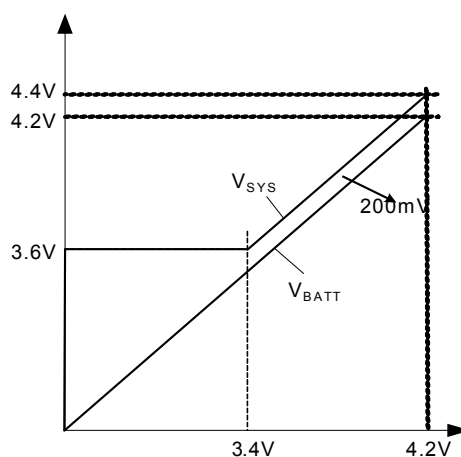

Figure 2 — MP 2617B SYS Regulation Output
2) If $\text{BATT} < 3.4\text{V}$, V_{SYS} is fixed at 3.6V to power the system immediately even when a drained battery is inserted to be charged. Figure 2 shows the relationship of V_{SYS} vs. V_{BATT} .
System voltage can also be regulated to any value between 4.08V to 4.4V in MP2617B (4.22V to 4.63V in MP2617A) by using a resistor divider on the SYSFB pin. This is shown as R6 and R7 in Figure 10. If the SYSFB is left floating, the system program is invalid, and V_{SYS} is regulated as Figure 2.